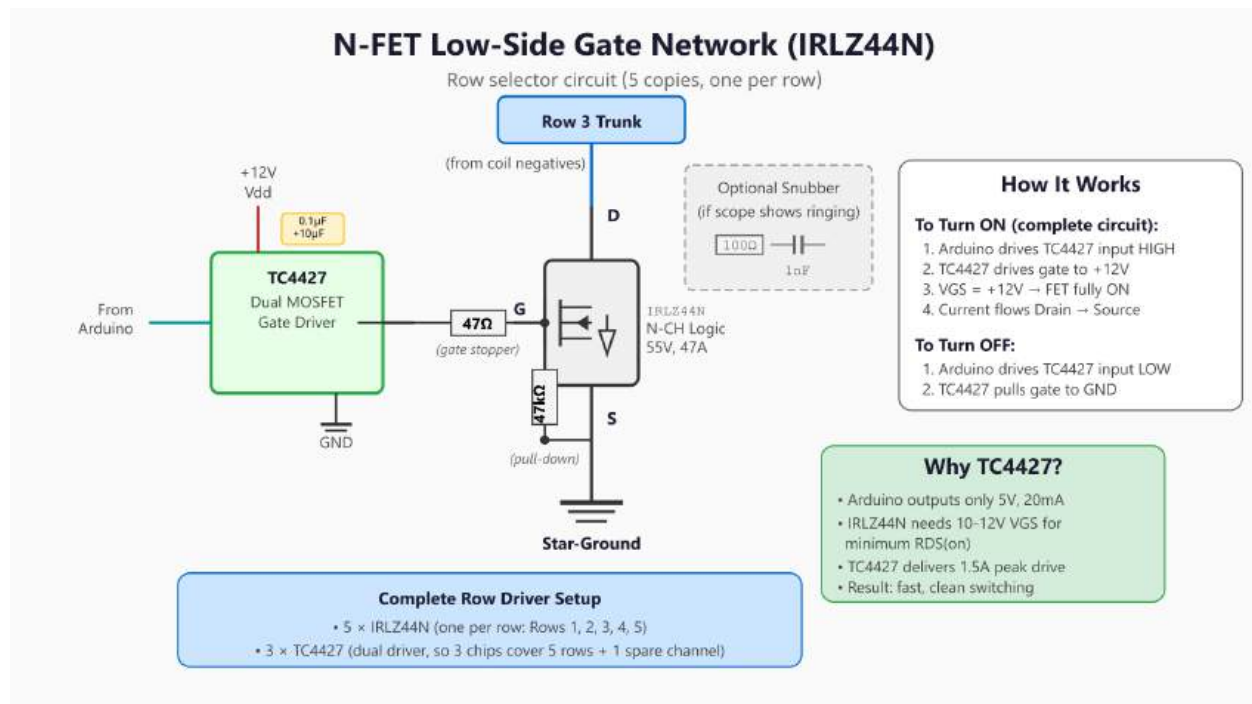

Figure 9-2a — N-FET Low-Side Gate Network
**IMPORTANT DESIGN CHANGES (Don't Panic!)** You may notice differences if you compare this to the theoretical schematic (Figure 9-2a). Follow these **Hardware Updates**: